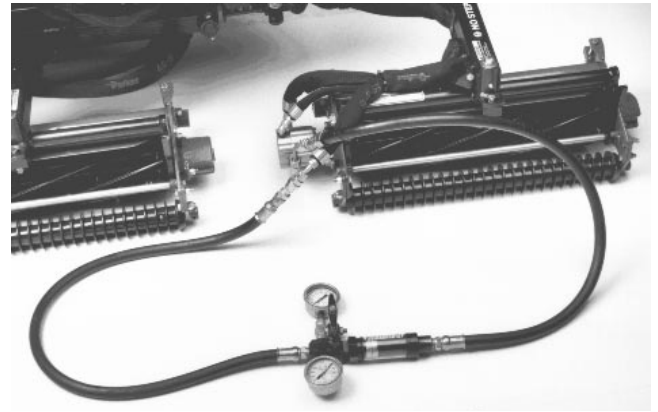

Figure 22
4. Install tester in series between pressure hose and motor fitting on suspected bad circuit (Fig. 22). Make sure the tester flow control valve is OPEN.